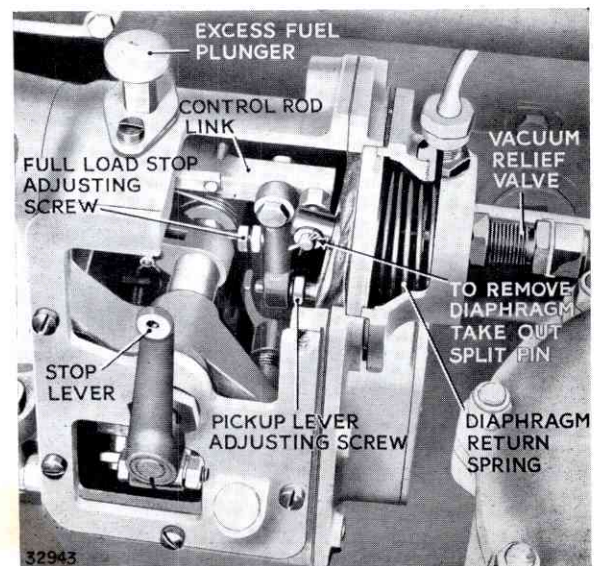

FIG. 78. GOVERNOR MECHANISM
The cable control is connected to the stop lever (Fig. 78), and when operated moves the control rod to the fuel cut-off position, thereby stopping the engine.
3. Remove the split pin (Fig. 78), securing the diaphragm to the control rod pin. Draw the rod to the full-off position and unhook the diaphragm.